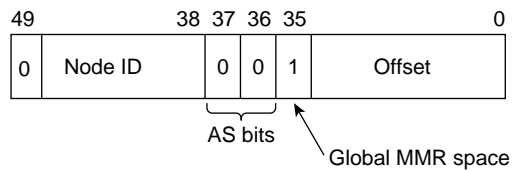
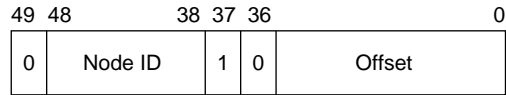
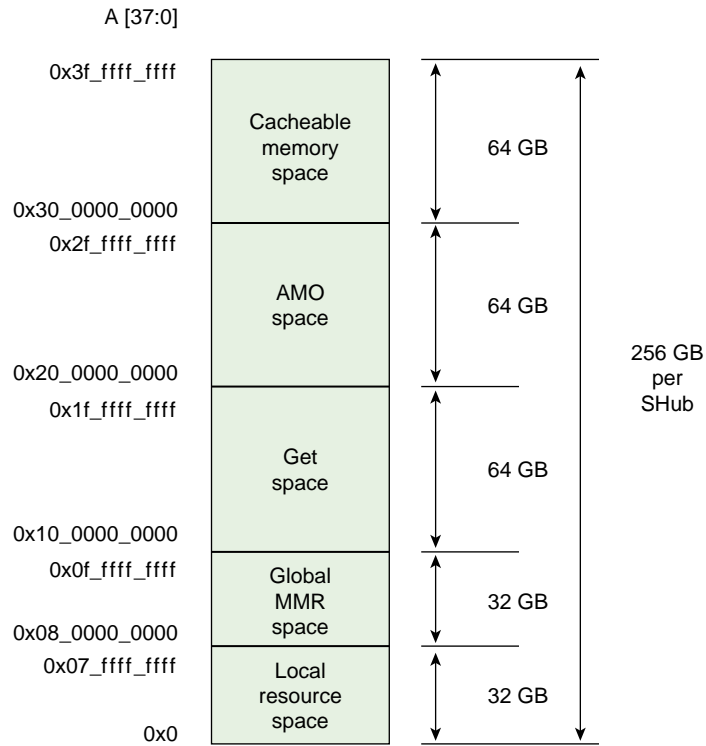

Figure 2-6 Bit Values for Global MMR Space
Figure 2-7 Bit Values for AMO Space
Figure 2-8 SHub Physical Address Map
SGI Altix systems support 64-bit mode addressing. This section refers to the 64-bit address spaces provided by the SGI Altix system microprocessor (see Figure 2-8 on page 27). This architecture uses addresses that are 64-bit unsigned integers from 0x0000 0000 0000 0000 to 0xFFFF FFFF FFFF FFFF. This is an immense span of numbers—if it were drawn to a scale of 1 millimeter per terabyte, the drawing would be 16.8 kilometers long (just over 10 miles).
A node’s global memory mapped register (MMR) space provides all processor nodes in the system with access to a node’s MMRs (see Figure 2-6 on page 23). Notice the position of the global MMR space in the physical address map shown in Figure 2-8 on page 27. Following are the values of the bits for global MMR space:
When the address space (AS) bits are set to 10, the reference is to atomic memory operation (AMO) space. An AMO read operation (AMOR) or AMO write operation (AMOW) request is issued to the SHub that is identified by the number in the node ID (see Figure 2-7 on page 24). Notice the position of the AMO space in the physical address map shown in Figure 2-8 on page 27. The node offset bits specify a 36-bit offset within the SHub address space, as follows:
When the AS bits are set to 11, the reference is to cacheable memory space. A memory request is issued to the SHub that is identified by the number in the node ID. The node offset bits specify a 36-bit offset within the SHub address space. UC, WB, and WC attributes are supported for cacheable memory space. Notice the position of the cacheable memory space in the physical address map shown in Figure 2-8 on page 27. The 50-bit physical address has a 36-bit offset within the SHub address space, as follows:
Figure 2-8 on page 27 shows the SHub physical address map. On SHub, AMO space and global MMR space must be accessed uncached, and GET space must be accessed cached. Cacheable memory space can be accessed cached or uncached, subject to operating system constraints.